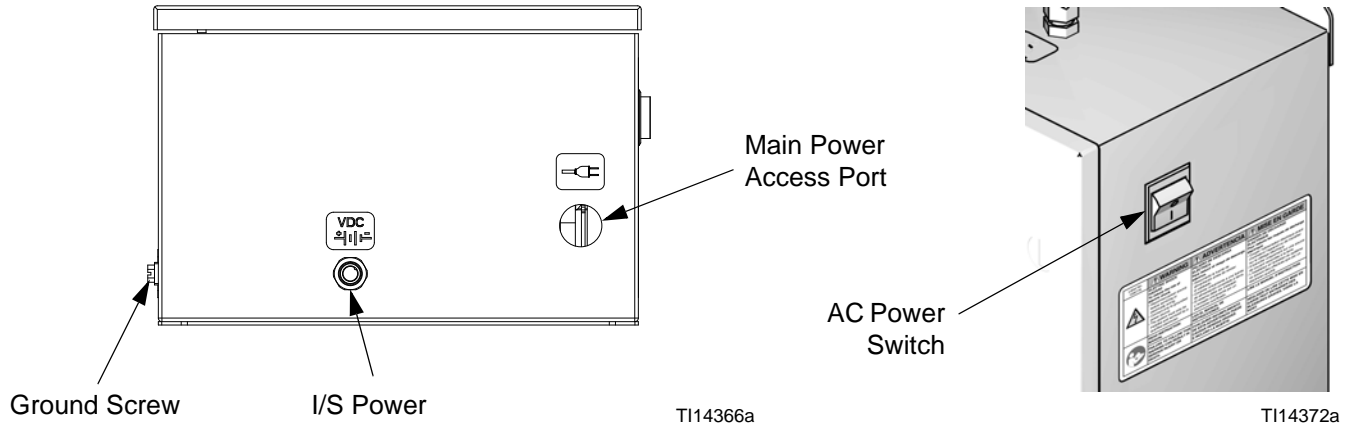

FIG. 10. Power Supply Module Connections and AC Power Switch
- The input power access port  is 22.4 mm (0.88 in.) diameter. It accepts a bulkhead strain relief fitting or conduit. See FIG. 10.
1. Provide power to the Power Supply Module. Install a bulkhead strain relief or conduit bulkhead through the Power Supply Module port . See FIG. 10.
1. Connect one end of the 50 ft (15.2 m) Fluid Station Power Cable (Part No. 123271, red color coded) to the Power Supply Module I/S Power connector $\overset{\text{VDC}}{\pm}| | \text{---}$. See FIG. 10.